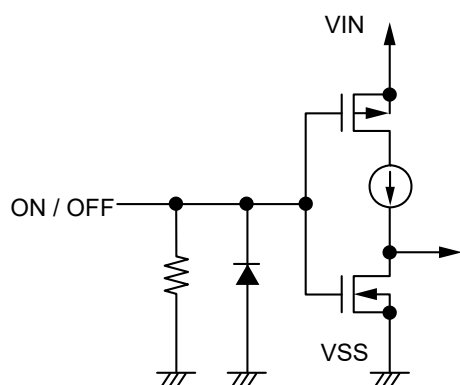

Figure 29 S-13A1 Series A / C type
When the ON / OFF pin is set to OFF level, the entire internal circuit stops operating, and the built-in P-channel MOS FET output transistor between the VIN pin and the VOUT pin is turned off, reducing current consumption significantly. Note that the current consumption increases when a voltage of 0.3 V to $V_{IN} - 0.3$ V is applied to the ON / OFF pin. The ON / OFF pin is configured as shown in **Figure 29** and **Figure 30**.
*1. Note that the IC's current consumption increases as much as current flows into the pull-down resistor of 2.5 M Ω typ. when the ON / OFF pin is connected to the VIN pin and the S-13A1 Series A / C type is operating (refer to **Figure 29**).